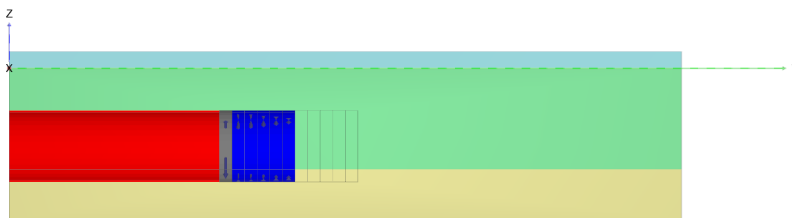

Figure 6.20 Selection of soil volumes (0 m - 25 m)
- In the drawing area select the soil volumes corresponding to the lining in the first 25 m (Figure 6.20).